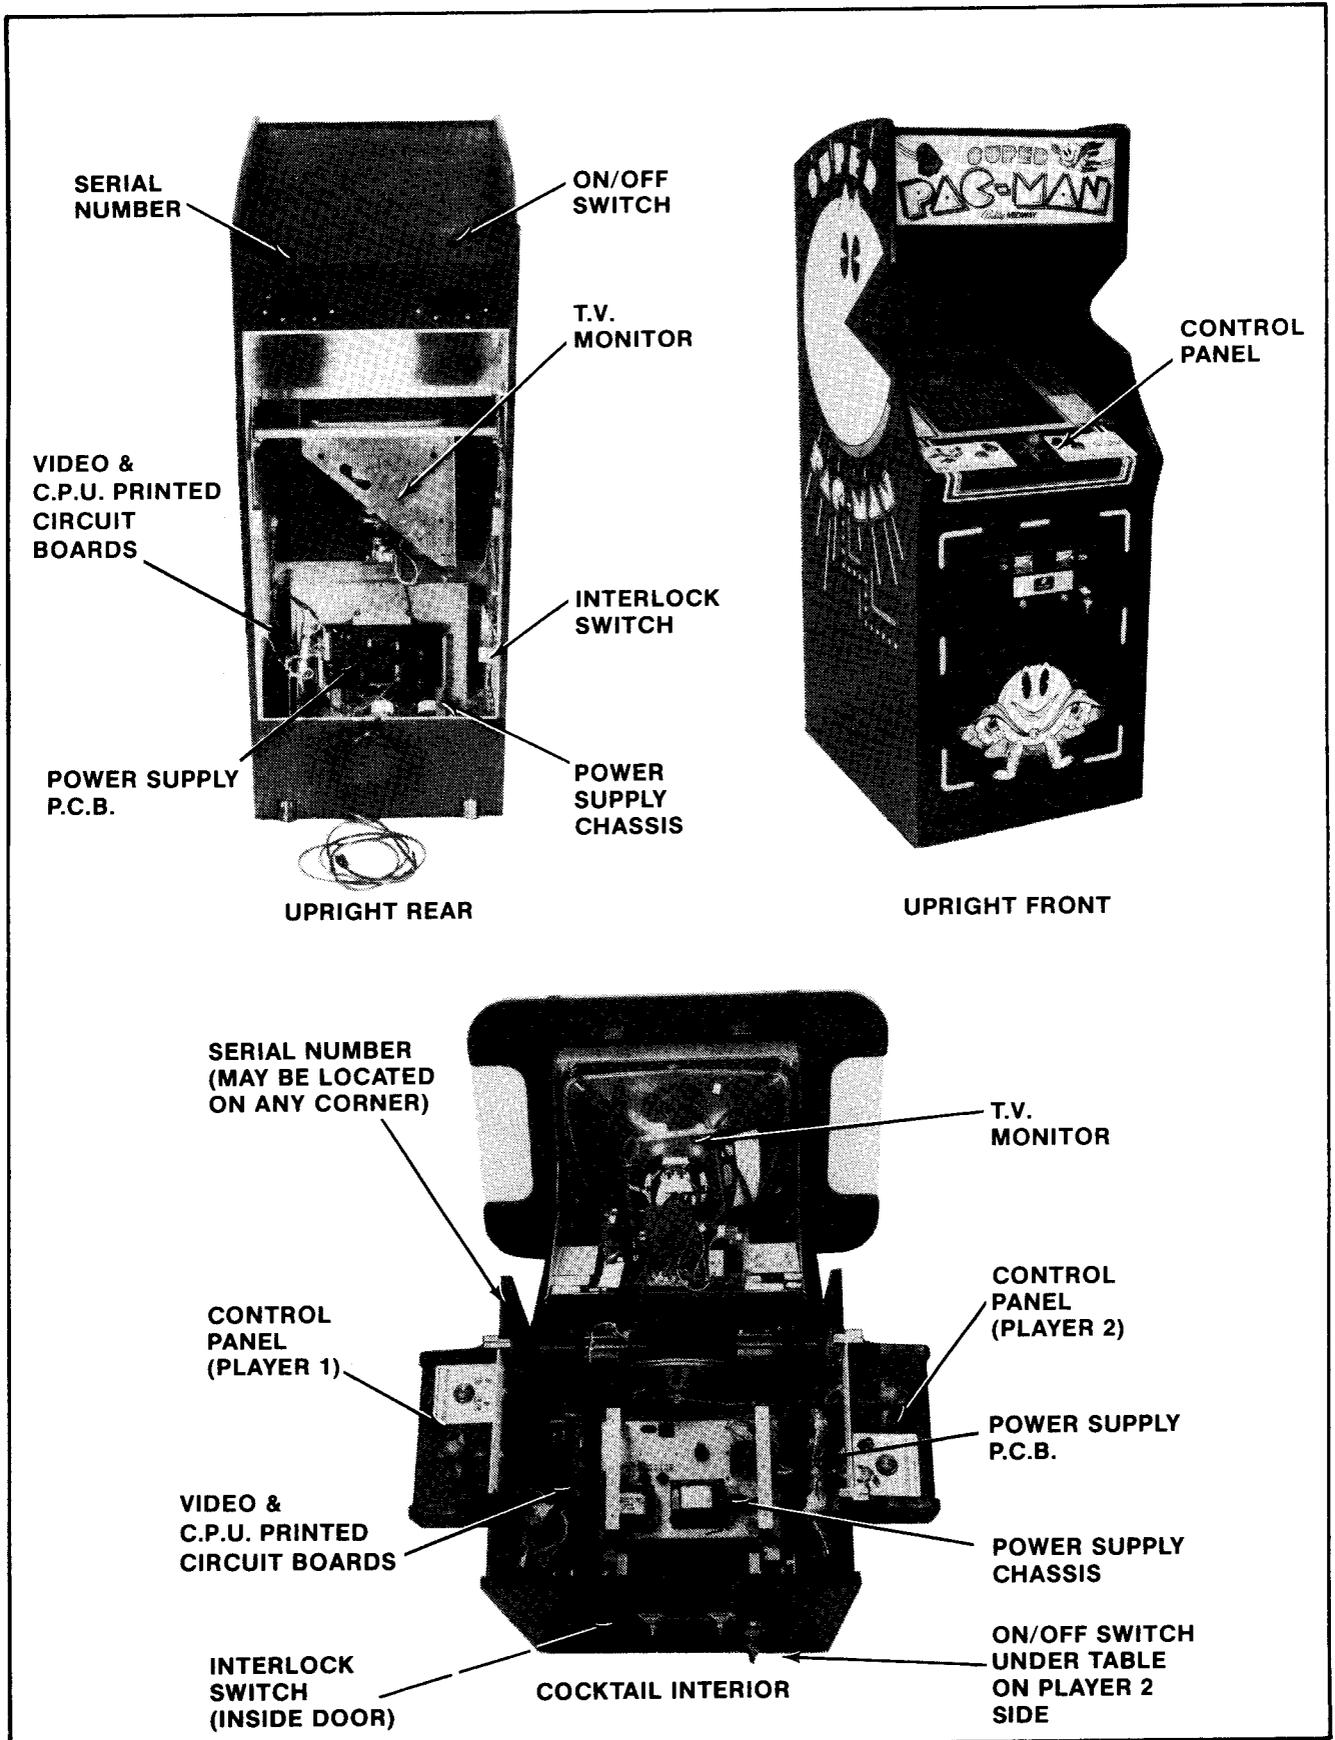

Figure 2-1 Location of Serial No., Interlock Switch, On/Off Switch, & Major Sub-Assemblies
5. Open the cabinet and inspect the inside of the game for any signs of damage. See Figure 2-1.
- Note the location of the game's serial number. See Figure 2-1.
- Check all major subassemblies to be sure they are mounted securely. These are called out in Figure 2-1.
3. Interlock and power ON/OFF switches: See Figure 2-1.
The game ON/OFF switches for both models are located as shown in Figure 2-1. Turn the game on and allow it to warm up a few minutes.